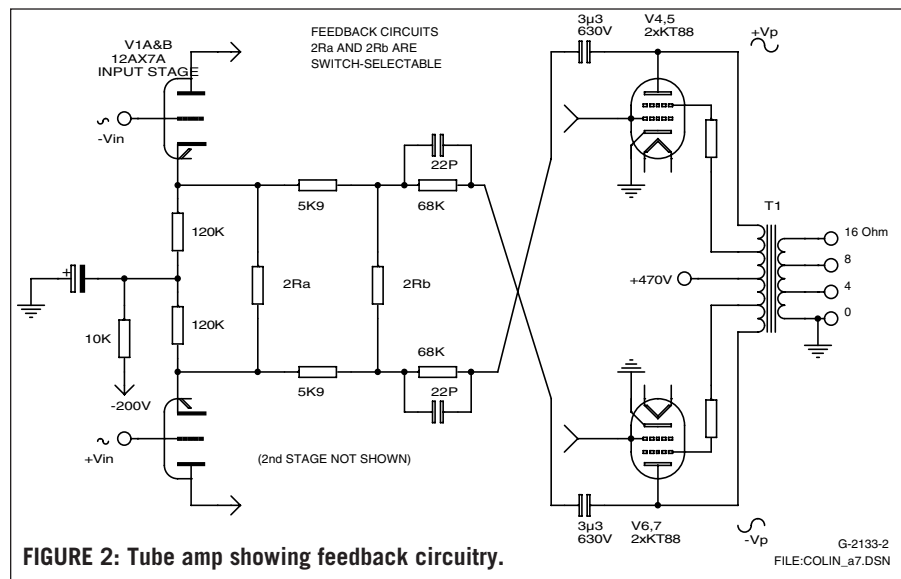
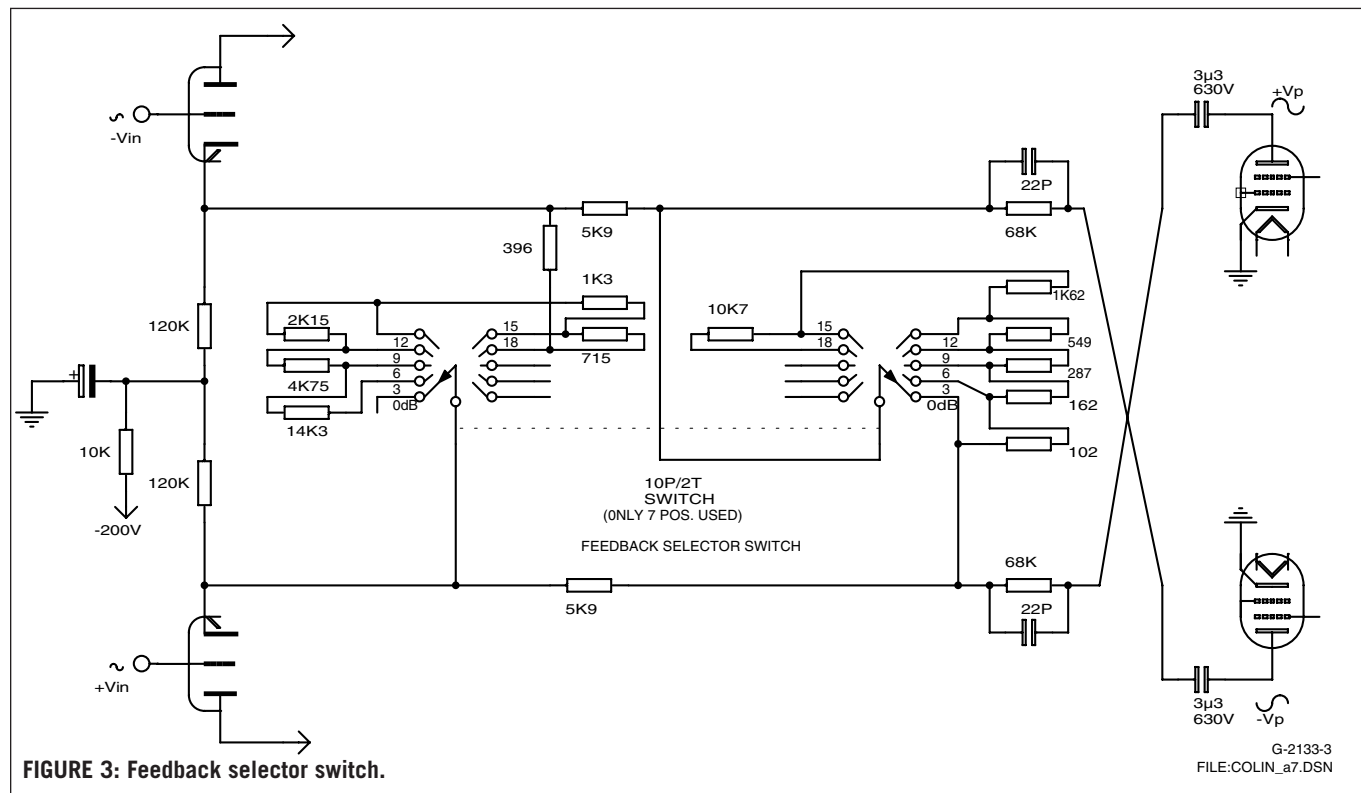

FIGURE 2: Tube amp showing feedback circuitry.
FIGURE 3: Feedback selector switch.
is the feedback factor, representing the maximum value selectable in the tube amp (*Fig. 2*). In the tube amp, R_a and R_b are selected to (1) adjust feedback in 3dB steps, 0 to 18dB, and (2) keep the overall gain reasonably constant (*Table 2* and *Fig. 3*).